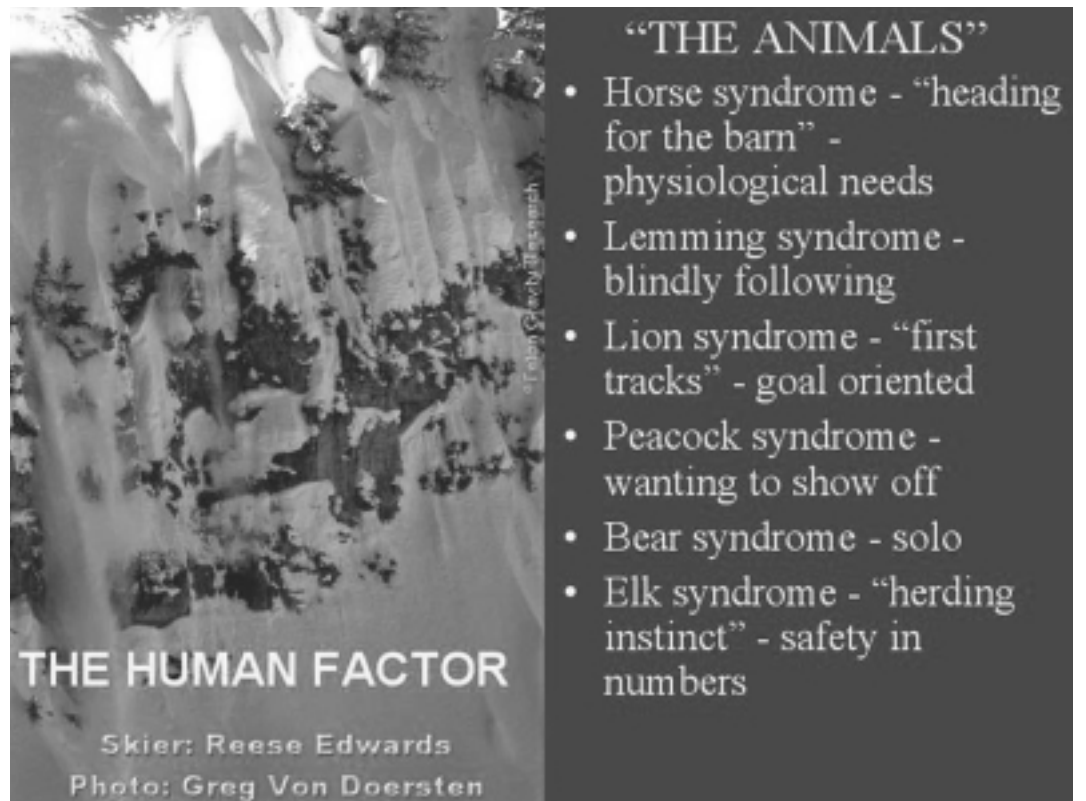
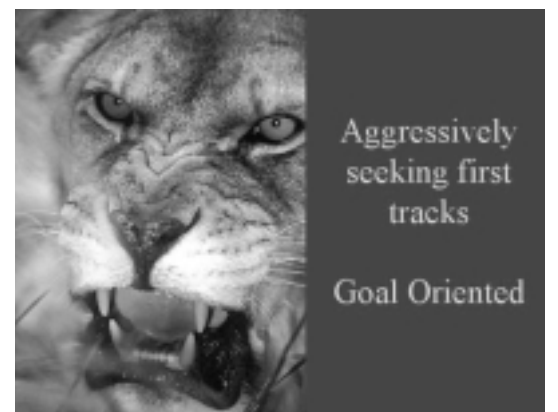

figure 1
figure 2
Keep it simple! What I mean to say is, **KEEP IT SIMPLE!!!** There is often enough room to fit all your text for a topic onto a given slide (meaning page of the presentation). Don't do it! The less you use the screen as a teleprompter and the more you use it to enhance your point the more effective your talk will be. Marketing guru Seth Godin suggests no more than six words per slide...EVER! While I think that is a little limiting, his point is a good one. Attempt to make your point using as little text as possible on each slide. The goal for your slides should be for them to reinforce your words, not repeat them. *Figure 1* shows an example of too much text for the slide. *Figure 2* breaks down the "syndromes" of the first slide into one point/slide.
Credit your sources. If you are using other people's photos (with their permission), then insert a textbox giving them credit. *Examples are shown in figures 1 and 6.* To add a text box, go to the Insert menu:Text Box, or click on the text box symbol of the drawing toolbar. If you are using scanned images from textbooks, journals, ISSW proceedings, etc., then you may be legally obligated to obtain the author's permission.
- Stock clip art and canned photos** are rarely what you want. If you are searching for a particular image, considering paying for the images that you can find at www.corbis.com, www.clipartconnection.com or dozens of other media sources. They are well indexed and are high quality images (see figure 2). Some excellent avalanche pictures are also available at www.avalanche.org/picturepage.htm for non-commercial educational purposes only. Always be sure to credit your sources.